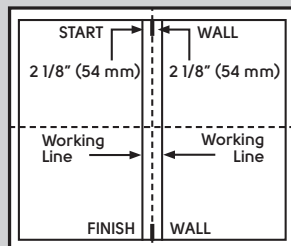
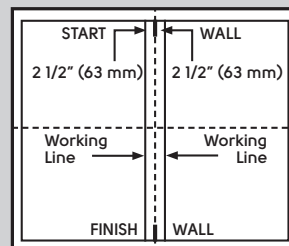

Fig. 2a
Fig. 2b
2. Measure 54 mm for 6" width planks (Fig 2a) OR 63 mm for 7" width planks (Fig 2b) from the left and right of the center mark at both ends of the room and strike a chalk line.